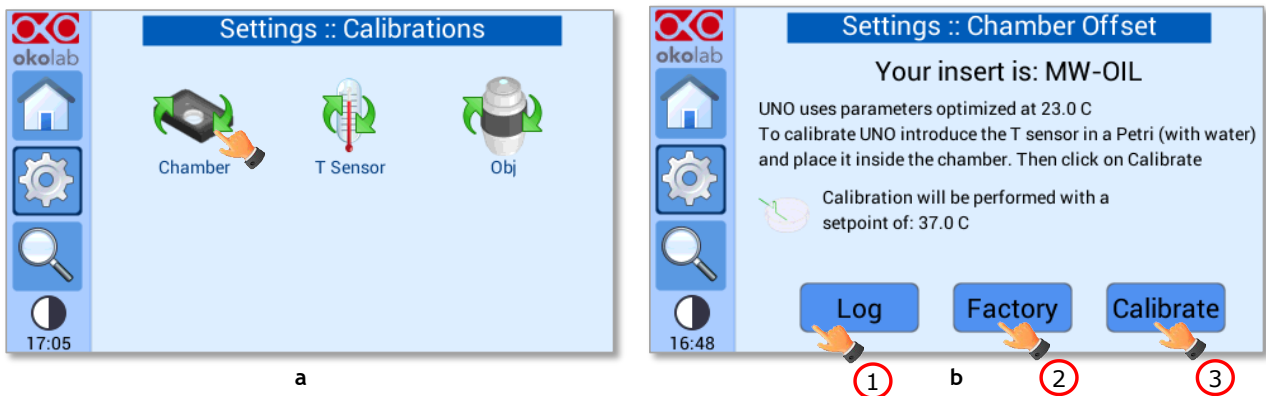
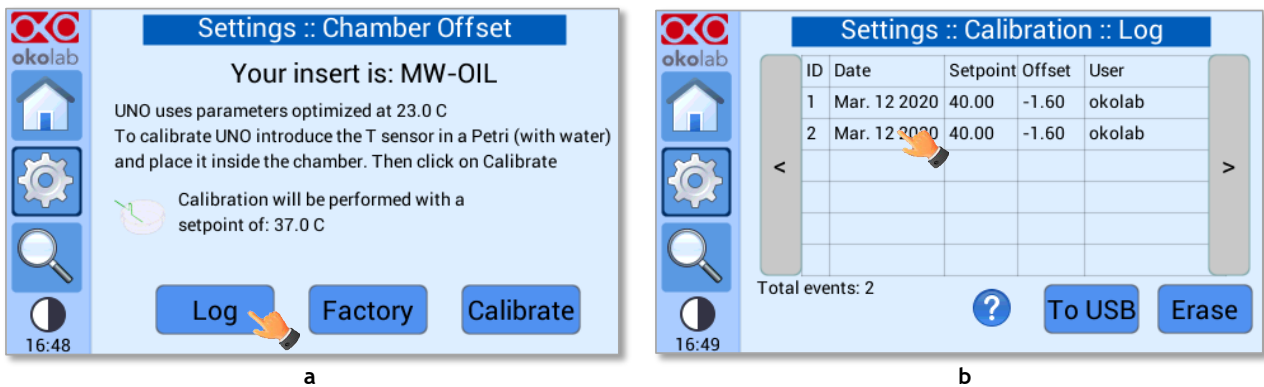

Figure 53. Settings - Calibrations - Chamber (a - b).
Figure 54. Settings – Calibrations - Chamber – Log (a – b).
Press on *Chamber* icon , to enter the Chamber calibration submenu (see Figure 53).
1. By pressing *Log* button (see pointer 1 in Figure 53 b) you can select parameters obtained by calibrations previously performed (see Figure 54 b).
- By pressing *Factory* button (see pointer 2 in Figure 53 b) UNO-CONTROLLER will recover and use the factory calibration parameters.
- By pressing *Calibrate* (see pointer 3 in Figure 53 b) UNO-CONTROLLER will start a routine to calibrate its parameters using the T Sensor.